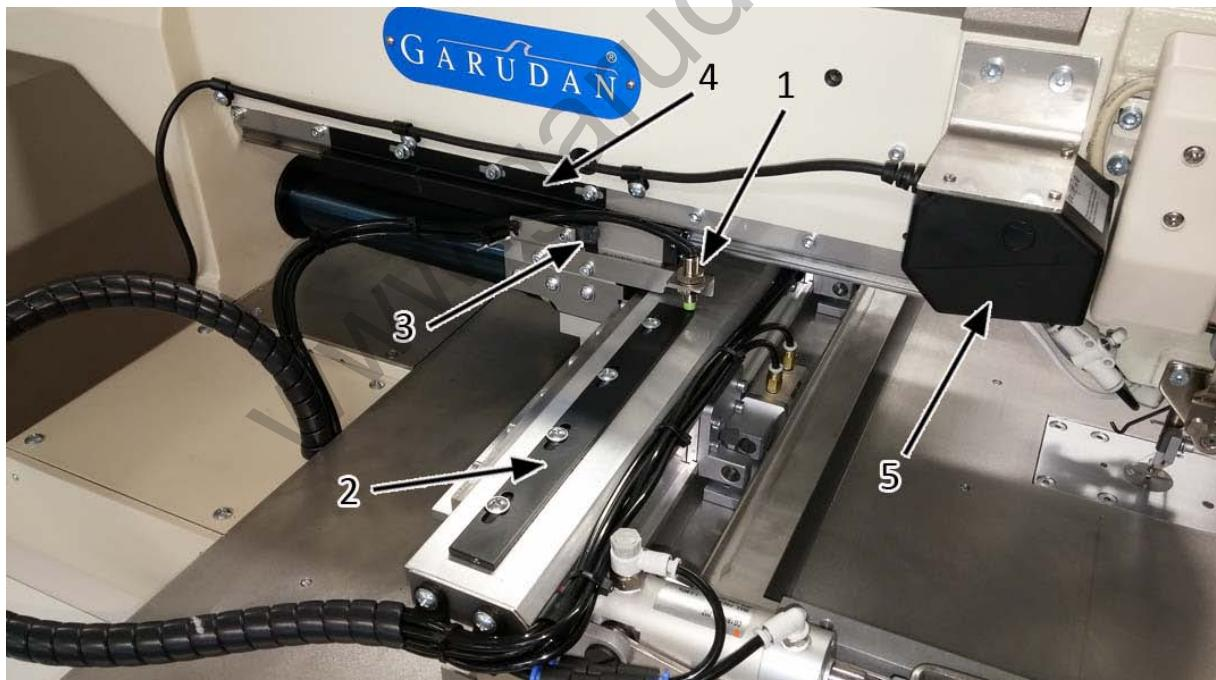
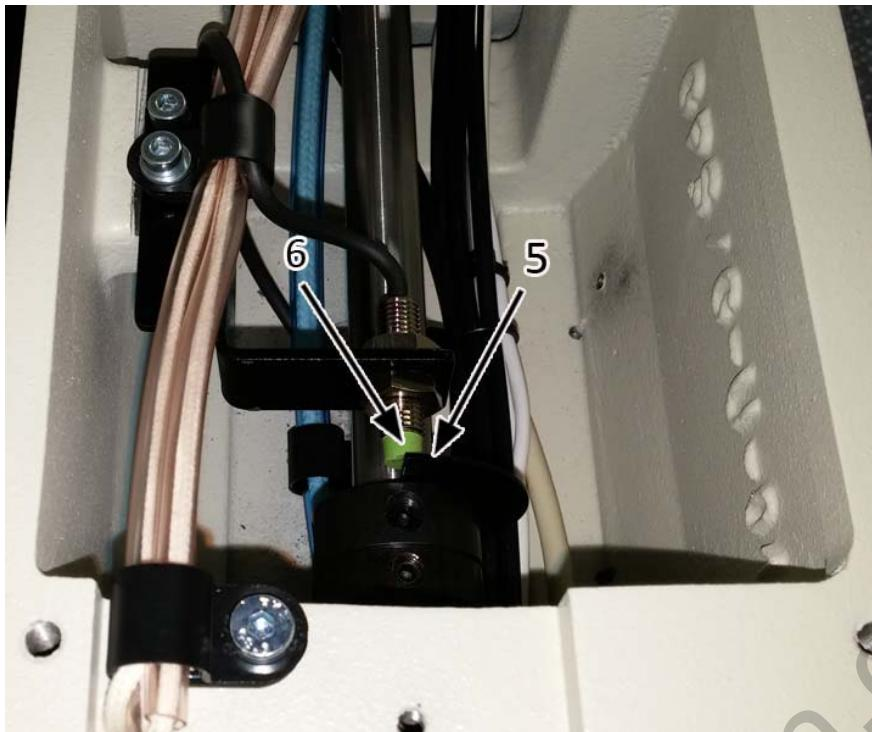
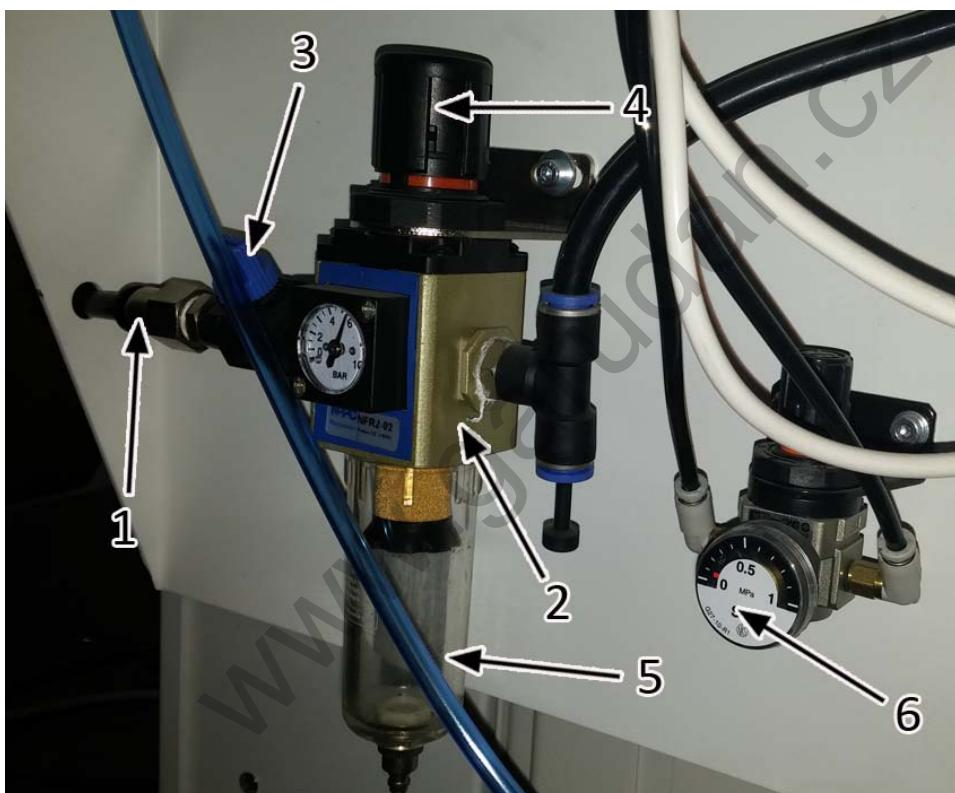

Fig. 43
Fig. 44
Fig. 53
- A. Sensors are placed on the machine arm, under left cover of the linear railway (fig. 43).
- B. X axis movement position can be set by moving sensor plate (2) against the sensor (1)
- C. X axis movement position can be set by moving sensor plate (3) against the sensor (4)
- For setting of initial points on X and Y axes move the feeding plate to its central position in both axes. Initial point refers to the actual center position of the feeding plate towards the needle. In this position the edges of sensor plates 2 and 4 are in line with the middle of sensors 1 and 3 (like the edge of sensor plate on fig. 44)
- D. Sensor of Z axis is located in the machine head and it can be reached after taking off cover of the machine head. Revolving sensor plate 5 is located on the main shaft. Put the needle in the lower stop position and make the fitting of the sensor plate 5 located on the ring as is illustrated on the figure 44 – the sensor plate is in the middle of the body of the sensor 6.
Fig. 43 shows position of the barcode reader (5) on the machine.
If the machine is not supplied with special feeding frame or feeding frame with pneumatically actuated fixing manufactured by special order, standard solution mounted on the machine is compact feeding frame consisting of one-piece upper presser frame (1) and one-piece lower feeding frame (5), see fig. 44.
- A. Speed of the upper frame (1) down movement can be adjusted by valves (2) on both pneumatic cylinders
- B. Pressing force can also be regulated by pressure gauge (6), see fig. 53.
- C. For disassembly of the upper frame (1), remove 6 screws (3) on right and left holders. At the same time, it is necessary to disconnect pneumatic hose nipples (4).
- A. Connect air hose to nipple (1) on the entry unit (2), see fig. 53.
- B. Open air valve (3).
- C. By turning the knob (4) on the entry unit set the pressure for the value 0,55 - 0,6 MPa. Check the correct air pressure value on the manometer gauge
- D. Make sure that the liquid in the separator (5) is regularly emptied. Neglecting of this point can cause presence of the humidity in the system and thus wrong function of the thread trimming!